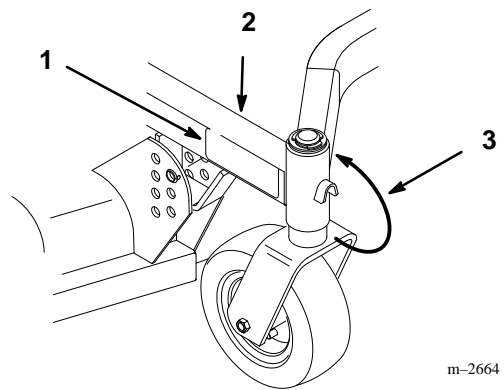

Figure 2
1. Locate right and left decals over existing H-O-C decals on mower frame (Fig. 2).
Move spacers on front castor wheels to top (Fig. 2). See Operator's Manual for specification.